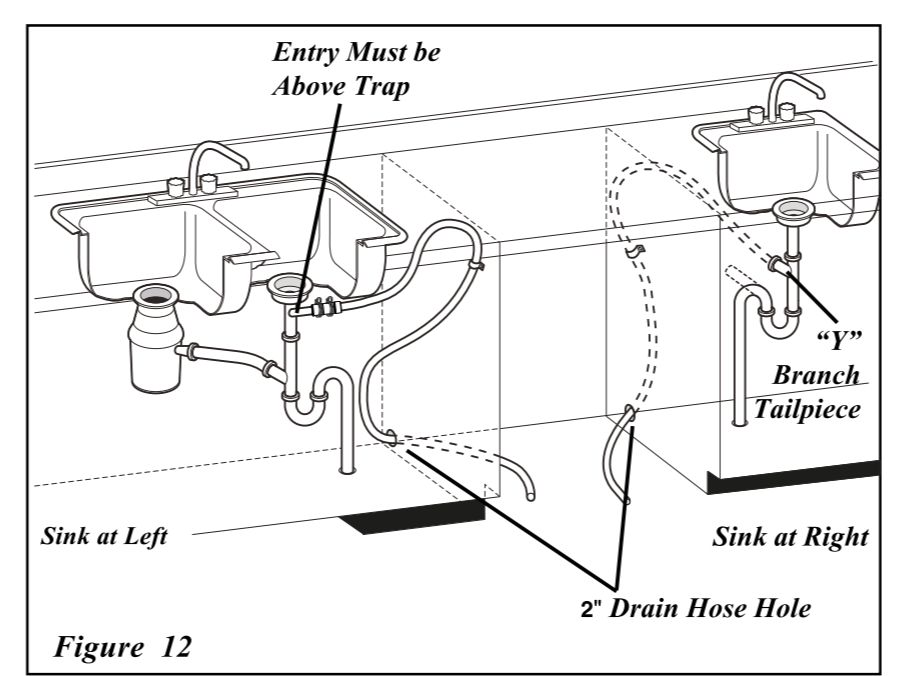

Figure 13
- If you connect to a sink trap, local codes may require you to install an air gap kit, (not included). The drain hose will be routed from dishwasher to air gap inlet as shown in Figure 13. An air gap kit is available from a plumbing supply store. (If the drain hose is installed through the floor, an air gap is necessary).